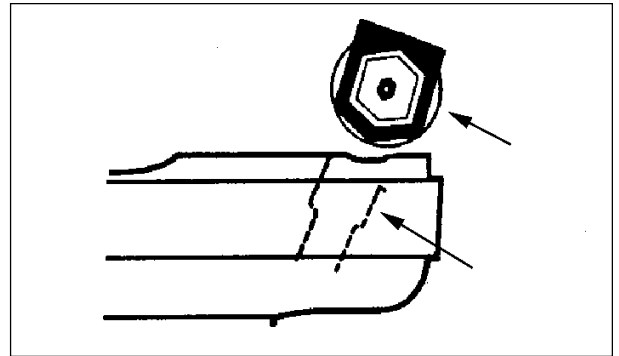

Figure 6
- Place the rubber end cap covers over both end caps (flat side against end cap). Align holes and secure. Then, slant the brush roll forward so the end caps are in line with the slots in the cleaner base. Push the brush roll into the base until seated. See figure 6.
3. Take the rubber end cap cover (figure 6, item A) from the end of the brush roll and unscrew the locknut (figure 9, item B).